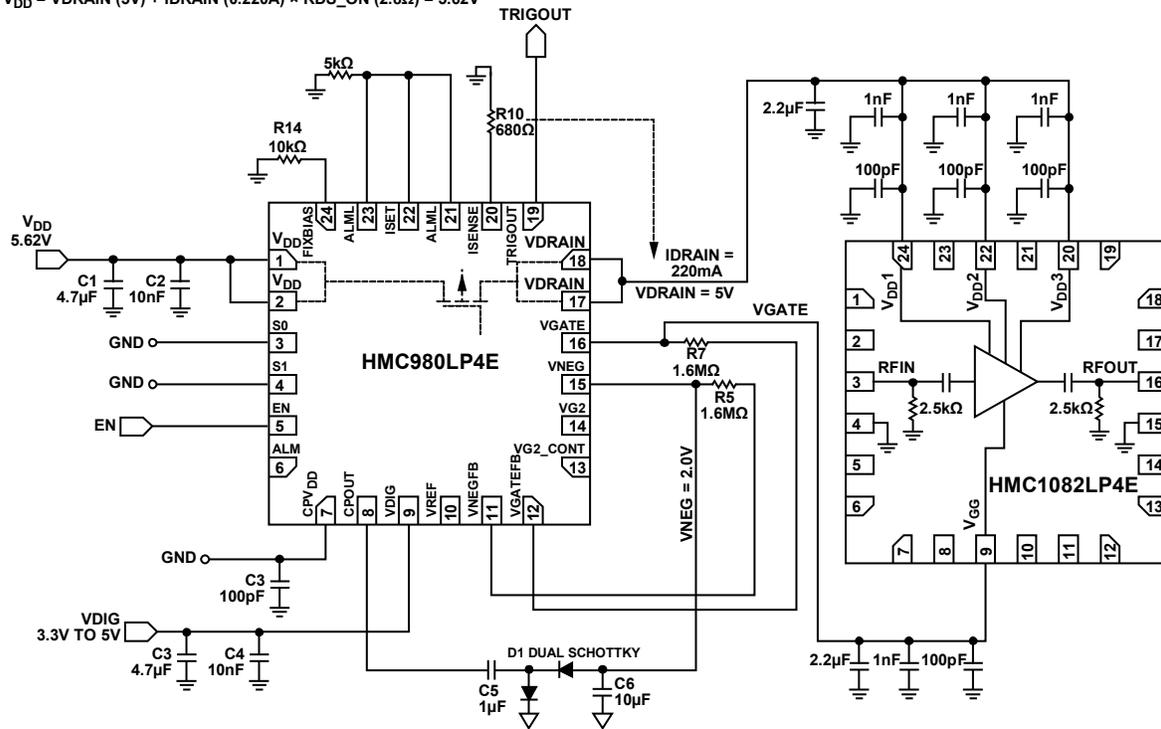

Figure 27. Application Circuit for Biasing the HMC1082LP4E with the HMC980LP4E
- The shunt VGG capacitor values can be reduced to increase the rise time (see HMC1082LP4E in Figure 27). Refer to the Reducing VGATE Rise Time section for further details.